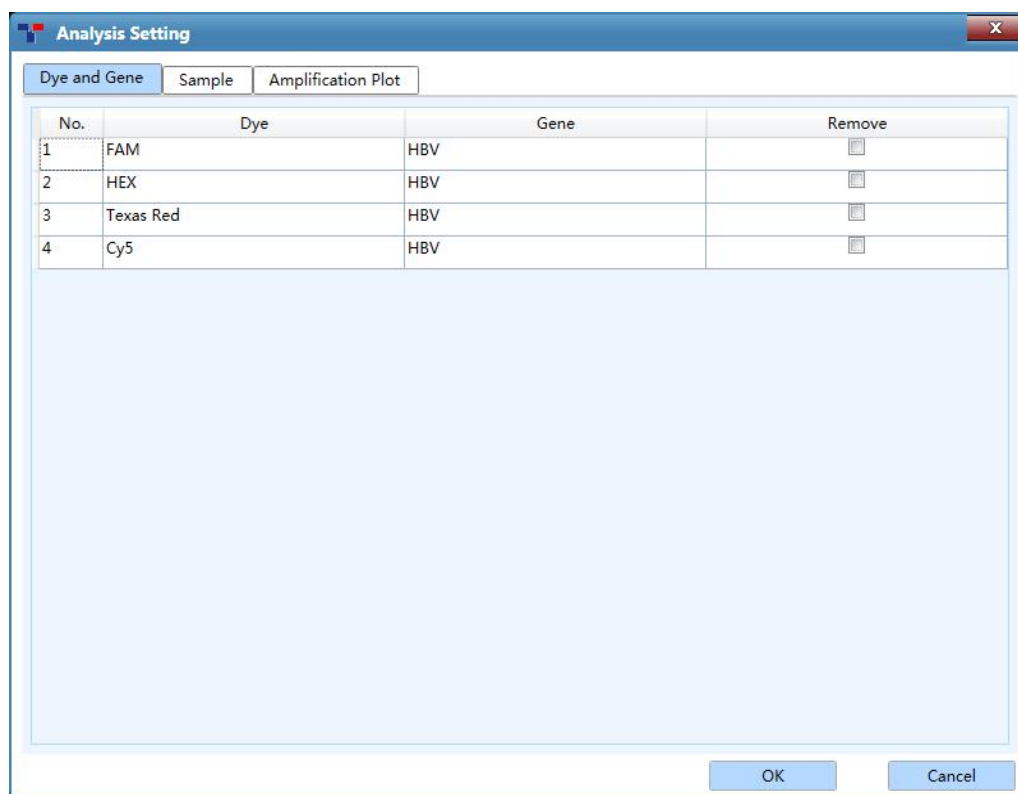

Figure D-10.1 Abs Quant Analysis Setting interface - Dye and Gene tab
- **Dye and Gene** tab: display the settings of **Dye** and its marked **Gene** of the current experiment, as shown in figure D-10.1.